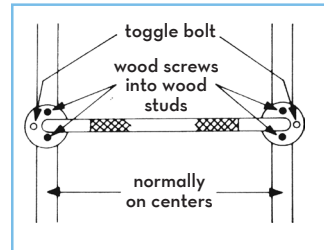
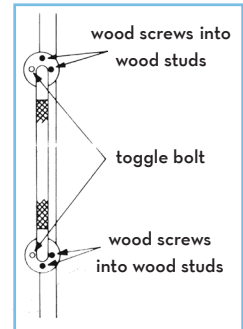

figure 1
figure 2
1. Place grab bar on wall in line with wall studs and mark location of screw holes. (Horizontal Attachment See Figure 1, Vertical Attachment See Figure 2.) After deciding on type of attachment, drill small hole to confirm the location of the stud.